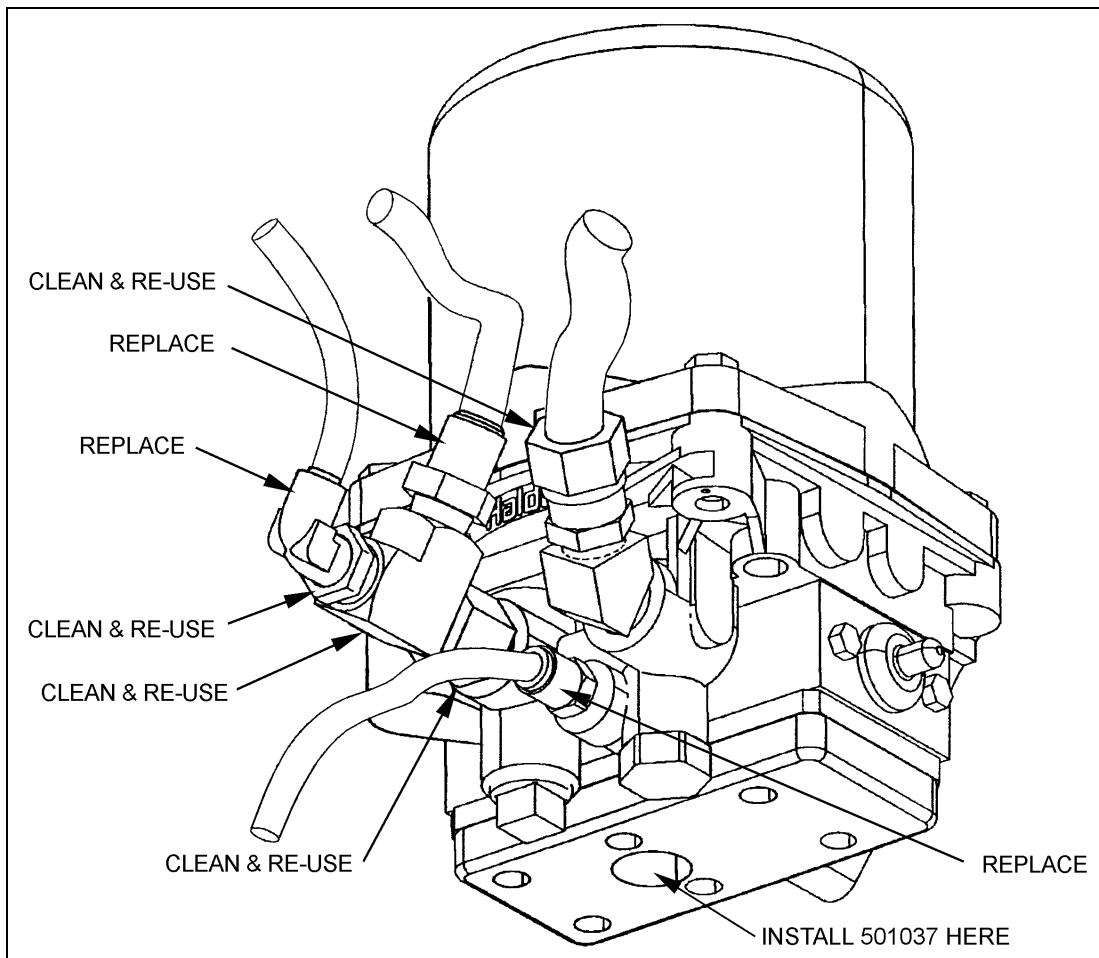

FIGURE 1
Important Note: We recommend replacing the male connector (501600) in addition to the two push-in tube connectors (641374 and 641331) in order to prevent future defects (Refer to figure 1).
6. Apply some pipe sealant onto the threads of the 90° elbow (501037) then fasten elbow onto air dryer (Refer to figure 1).